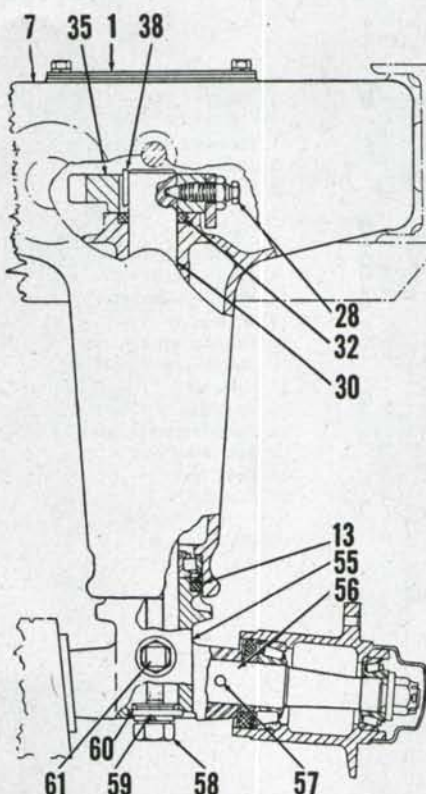

Fig. AC8—Models RC, WC, WD & WD45 dual wheel tricycle version front support, and main steering gear assembly.
of shims (60—Fig. AC8) located at bottom of spindle.
To R & R or renew the vertical spindle (30—Fig. AC8) and/or spindle taper roller bearing, it will be necessary to first support front end of tractor under frame rails and clutch housing. Remove pin from starting crank and withdraw crank from front support. On dual wheel type, remove cover (1)
4C. RC-WC-WD-WD45 WHEEL AXLE. On dual wheel type, the horizontal spindles (56—Fig. AC8) are individually available for service. Individual spindles can be removed from the spindle block after removing the front wheels, retaining pin (57) and adapting a combination puller.